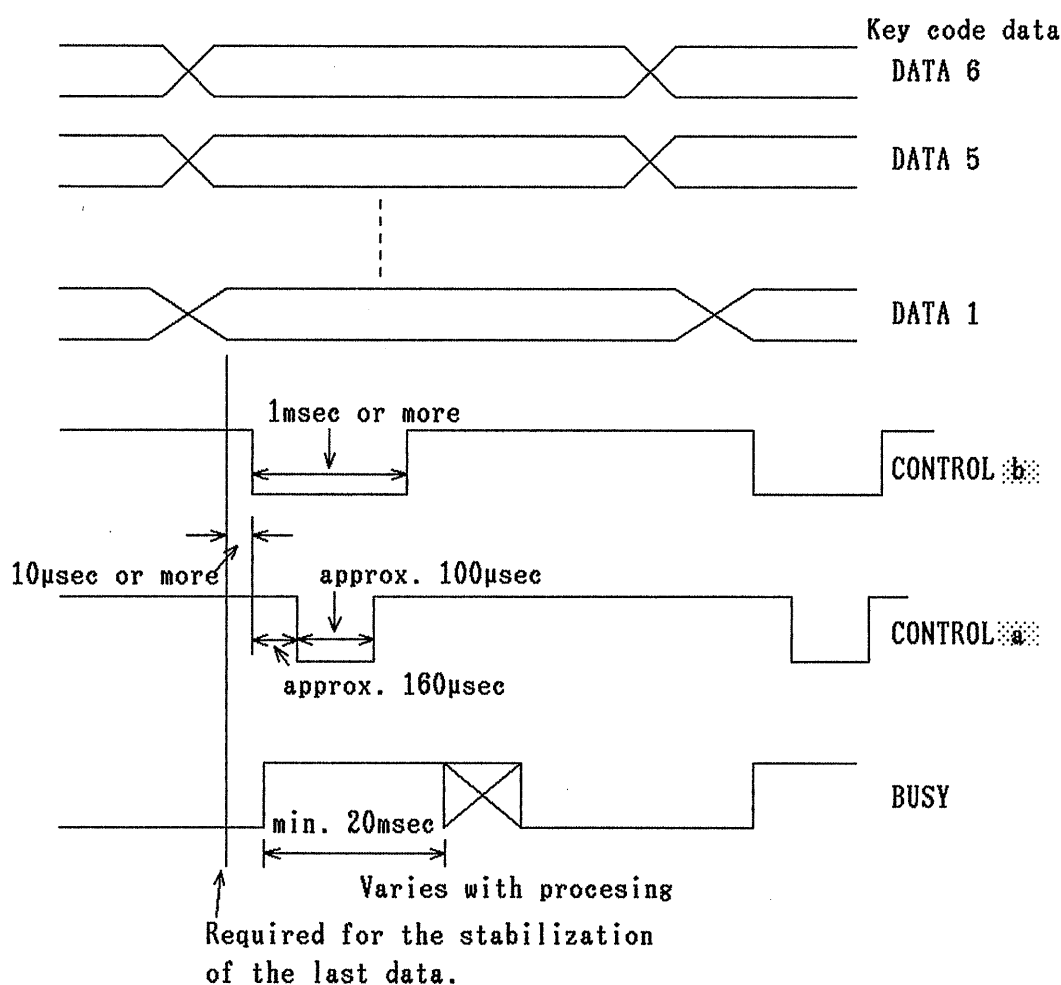

Figure 5-2
Then, set CONTROL **b** to "0" for 1msec or longer as shown in Figure 5-2.
- 2) Send CONTROL  which is set to "0" for 1msec or longer as shown in Figure 5-2 (input data timing).